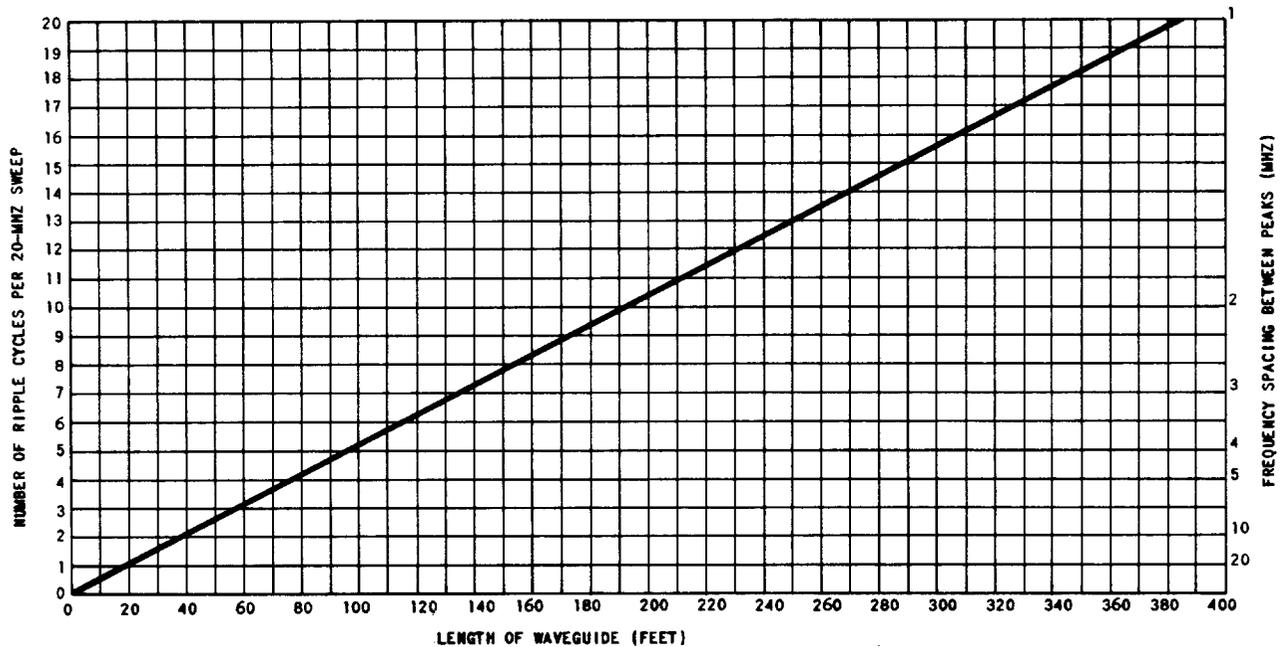

Fig. 5—Number of Ripples Versus Distance to Mismatch
2.08 A rule of "one ripple cycle per 20 feet" can be used to find the approximate location of an impedance irregularity causing reflections in the antenna system. Once the ripple pattern is analyzed to determine the number of ripple cycles within the 20-MHz sweep, the distance to the irregularity can be more accurately determined using Fig. 5. For example, if ripple cycles were observed that had a frequency spacing of 2 MHz between peaks (or there were 10 Hz per 20-MHz sweep), the distance to the irregularity causing the reflection would be 192 feet.